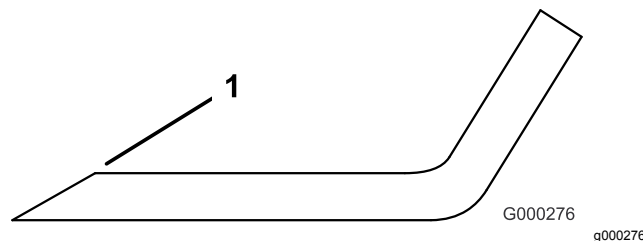

Figure 114
3. Examine the cutting edges of all of the blades. Sharpen the cutting edges if they are dull or nicked. Sharpen only the top of the cutting edge and maintain the original cutting angle to make sure of sharpness (Figure 114). The blade will remain balanced if the same amount of metal is removed from both cutting edges.